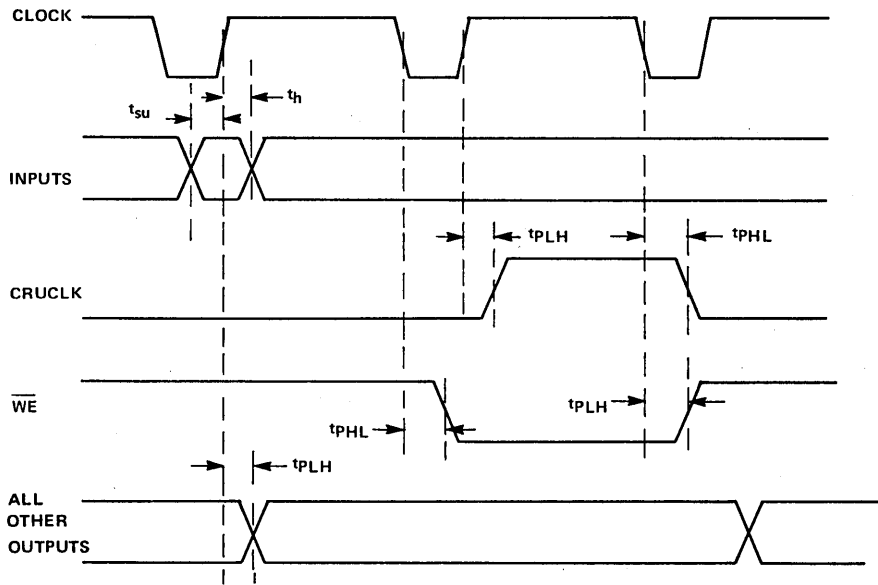

FIGURE 23 – SWITCHING-TIME VOLTAGE WAVEFORMS
6.3 SBP 9900A-1 SWITCHING CHARACTERISTICS OVER RECOMMENDED OPERATING FREE-AIR TEMPERATURE RANGE (UNLESS OTHERWISE NOTED), ICC = 500 mA, SEE FIGURES 23 AND 24